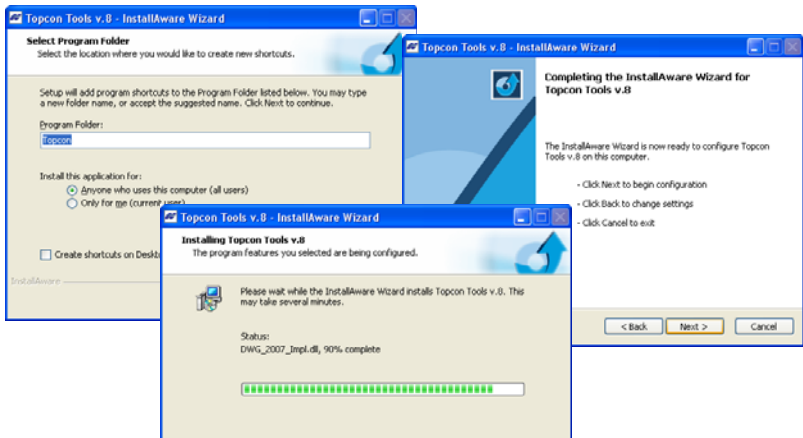

Figure 1-4. Select Program Folder and Installation Progress
4. If desired, type in a new folder in which to add program icons. For automatically creating Topcon Tools shortcut check the 'Create on Desktop' box. Then click **Next** (Figure 1-4).
5. Click **Next** to start the installation process (Figure 1-4)
## 6. Topcon Tools is installed on the computer (Figure 1-4)